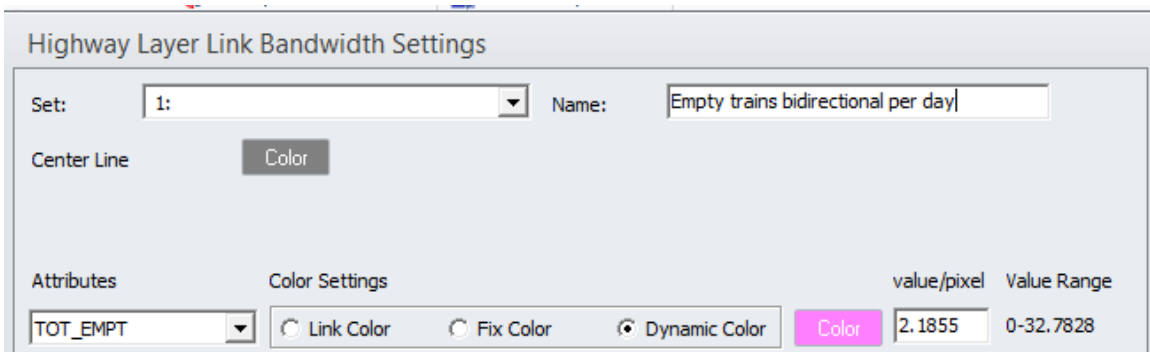

Figure 104 Name input frame
- 10) Enter in the Name input frame, the name of the map (in the example Empty trains bidirectional per day), in Figure 104.